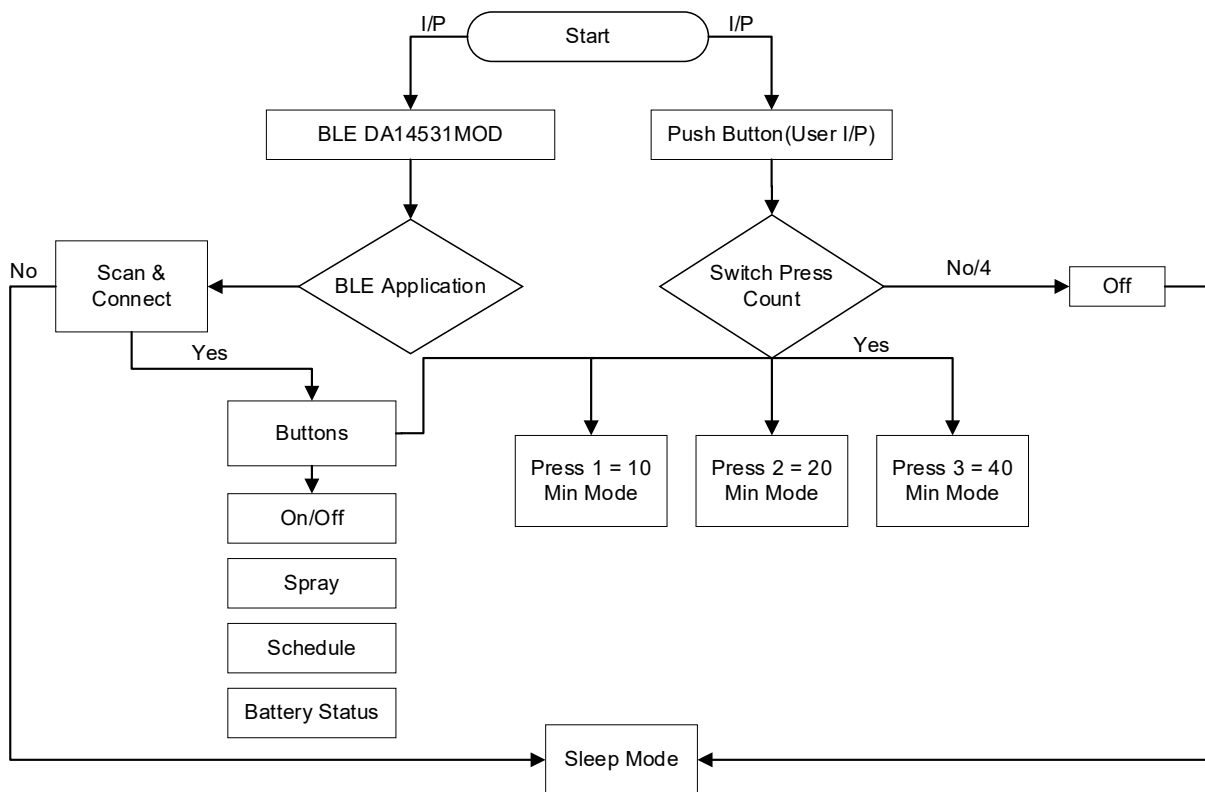

Figure 12. Algorithm Flowchart
- Figure 12. Algorithm Flowchart 8